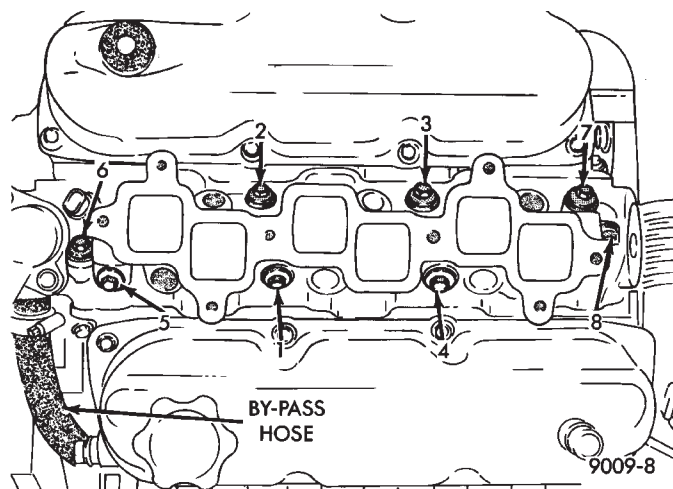

Fig. 15 Intake Manifold Removal and Installation
(4) Install intake manifold and (8) bolts and torque to 1 N•m (10 in. lbs.). Then tighten bolts to 22 N•m (200 in. lbs.) in sequence shown in (Fig. 15). Then tighten again to 22 N•m (200 in. lbs.). After intake manifold is in place, **inspect to make sure seals**